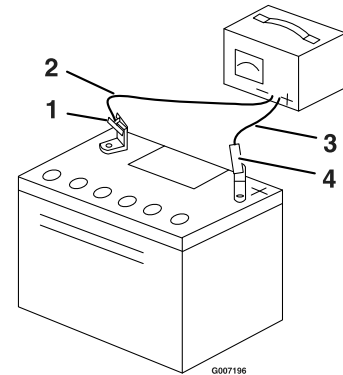

Figure 33
4. When the battery is fully charged, unplug the charger from the electrical outlet, then disconnect the charger leads from the battery posts (Figure 33).